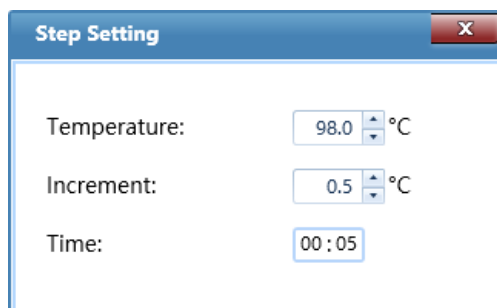

Figure D-5.6f. Step Setting Dialog Box – Melting Step
- V. **Melting**: melting stage allows the system to read the fluorescence signals after each temperature increment. If the current step is the last step of melting stage, user can set the temperature **Increment** in the **Step Setting** dialog box for the current step, as shown in figure D-5.6f.